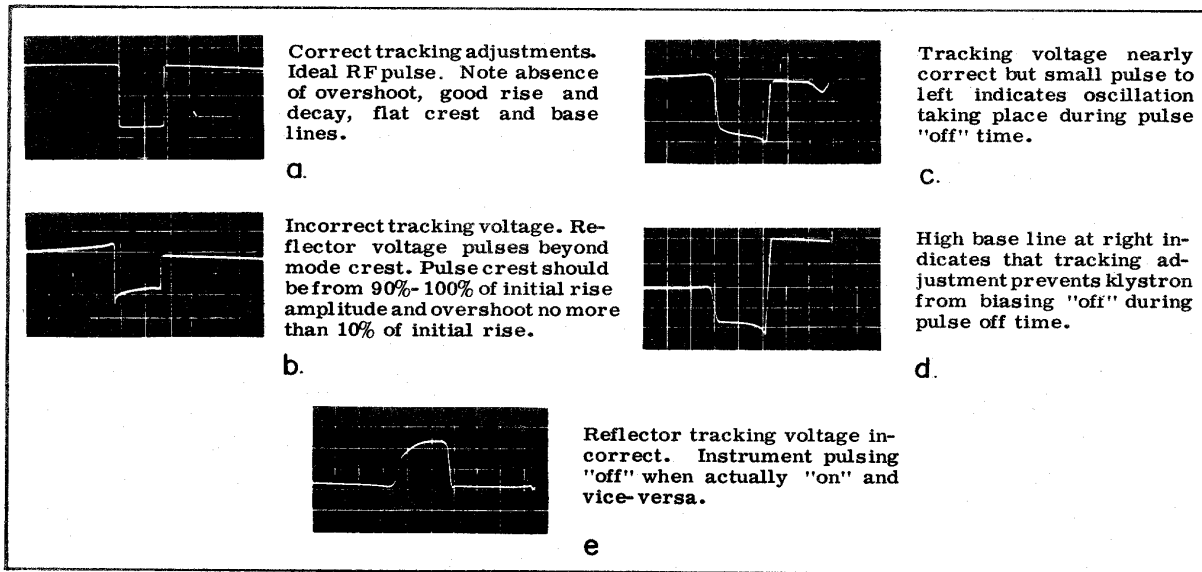

Figure 5-15. Typical Pulse and Square Wave Oscillograms
d. Tune frequency dial on signal generator slowly from 10 to 15.5 GHz while observing pulse shape and pulse base line appearance on oscilloscope. Various pulse waveforms are shown in Figure 5-15. If pulses have sharp overshoot, the reflector tracking potentiometer for that frequency has been adjusted beyond the crest of the mode pattern. A ragged base line indicates that oscillation is taking place when klystron should be cut off. If either of these troubles are present, readjust tracking potentiometer applicable to reflector mode and frequency under examination.